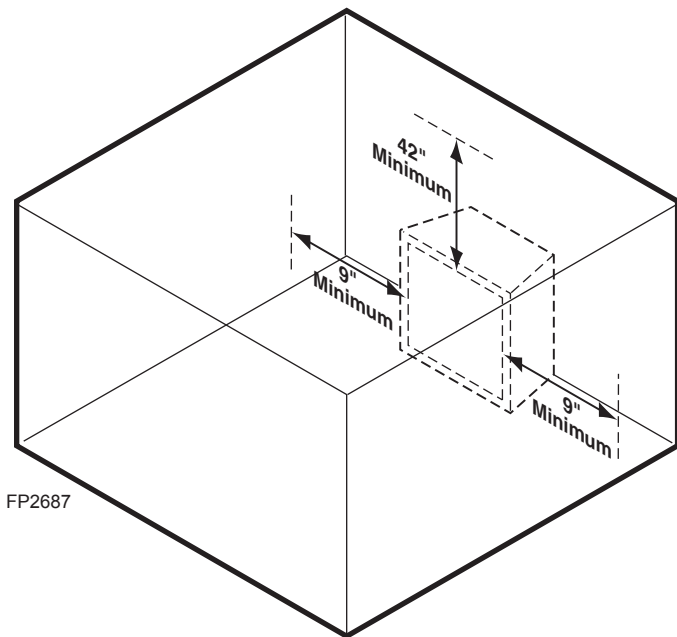

Figure 4 - Clearance and Height Requirements
Ensure that minimum clearances shown in Figures 4 through 8 are maintained. Left and right clearances are determined when facing the front of the firebox.
- 1. Sidewall clearances:** The clearance from the inside of the appliance to any combustible wall should not be less than 9". *Figure 4*
- 2. Ceiling clearance:** The ceiling must be at least 42" from the top of the firebox opening. *Figure 4*